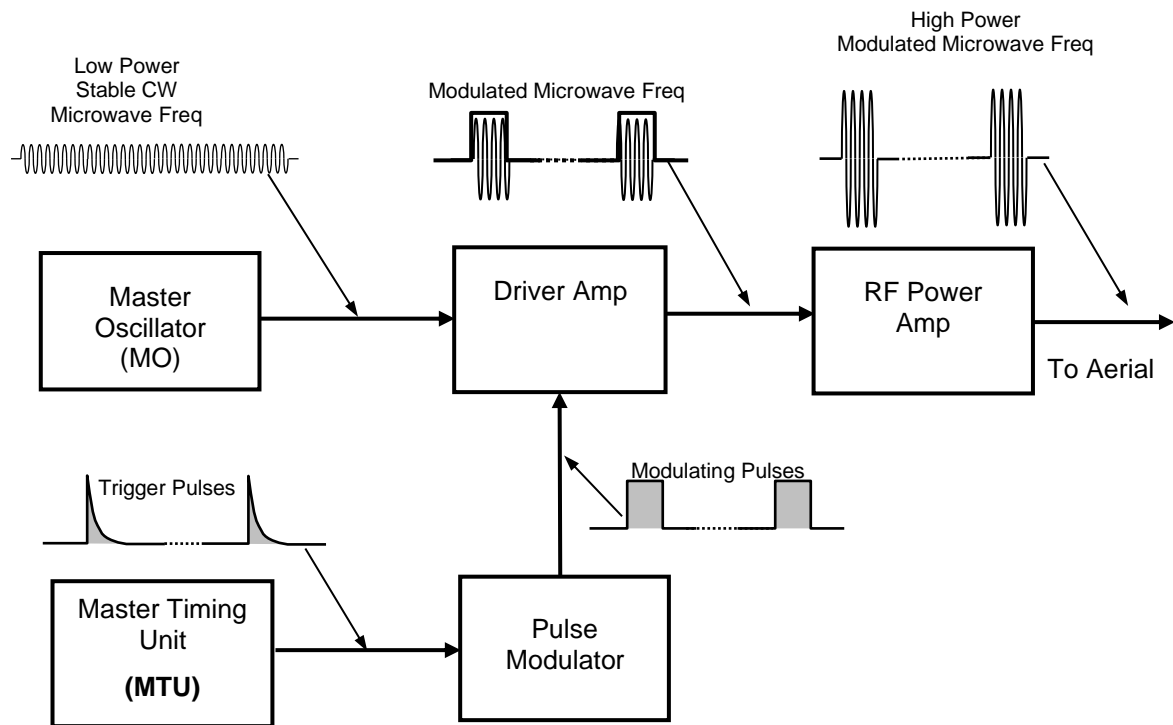

Figure 4 – Basic MOPA Transmitter
14. Refer to Figure 4.
15. Refer to Figure 4.
16. **Master Oscillator (MO):** Controls the transmitters RF output in the form of a low power, stable, CW microwave frequency.